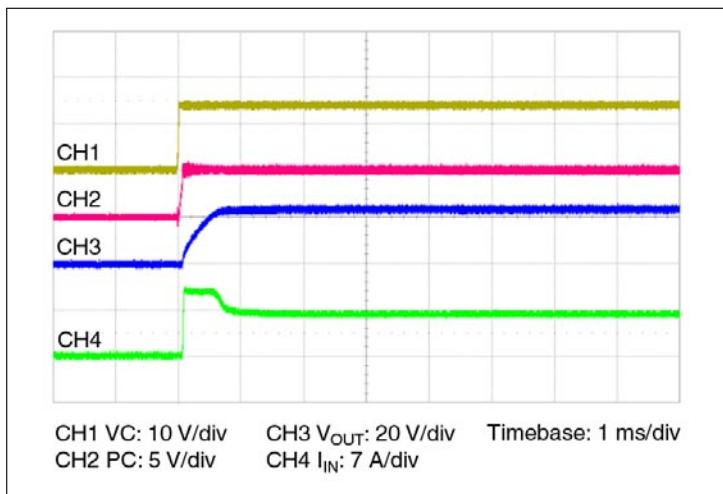

Figure 11 — Start up from application of VC;
- Stand-alone operation (VC applied after V_{IN}): In this case the VTM output will begin to rise upon the application of the VC voltage (See Figure 11). The Adaptive Soft Start Circuit (See Section 11) may vary the output rate of rise in order to limit the inrush current to its maximum level. When starting into high capacitance, or a short, the output current will be limited for a maximum of 1200 μ sec. After this period, the Adaptive Soft Start Circuit will time out and the VTM module may shut down. No restart will be attempted until VC is re-applied or PC is toggled. The maximum output capacitance is limited to 375 μ F in this mode of operation to ensure a sucessful start.